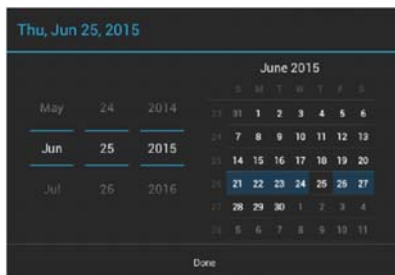

FIG. 79 Set Date and Set Time windows
Set Date:	Use the Set Date window (FIG. 79) to set the current day, month, and year.
Set Time:	Use the Set Time window (FIG. 79) to select the current time.
2. Press **Set Date** to open the Set Date window (FIG. 79).